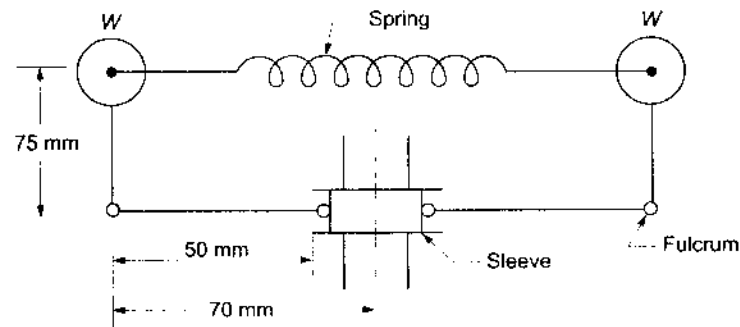

Fig.8.17
- 19 A centrifugal governor shown in Fig. 8.17 has two masses each of weight w connected by a helical spring. The arms carrying the weights are parallel to the axis of rotation at the speed of 900 rpm. If the speed is increased by 1%, it requires a force of 30 N to maintain the sleeve at the same position. Determine (a) the value of the masses, (b) the stiffness of the spring and its initial extension if the sleeve moves by 10 mm for a change of speed of 250 rpm.